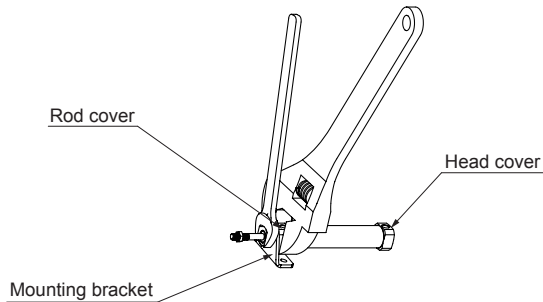

Figure 4
2. Fix the mounting bracket by clamping the rod cover with one wrench and tightening the end cover nut with another wrench, as shown in Figure 4;